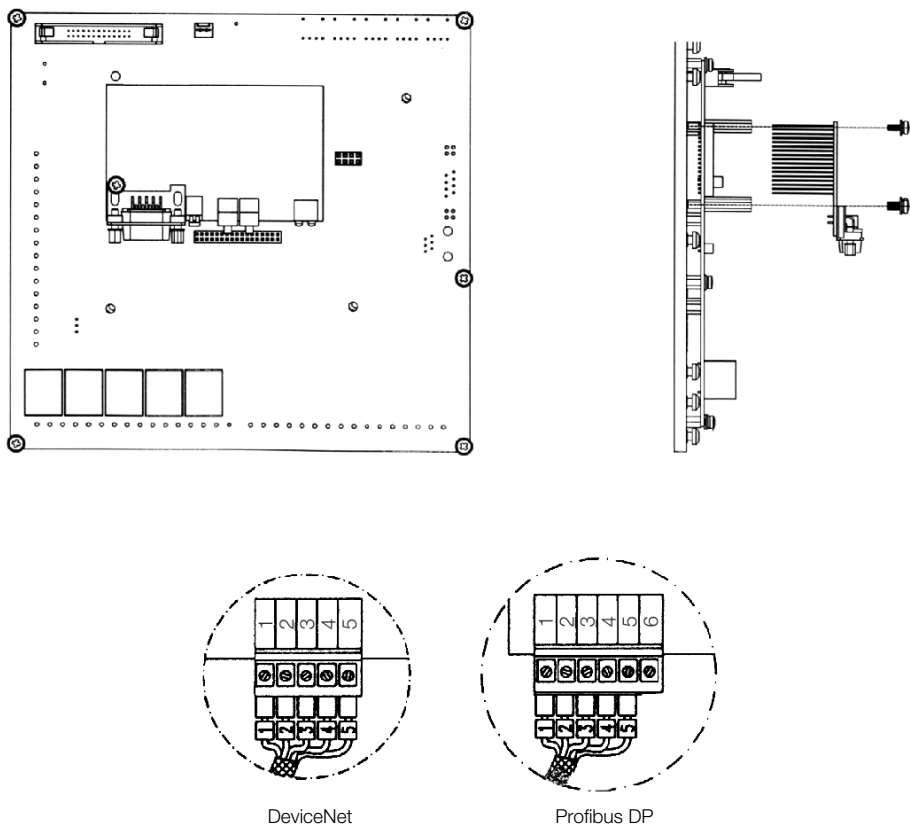

Figure 9.1: Installing the Fieldbus electronic board
3. Carefully insert the pin bar connector of the Fieldbus electronic board into the XC140 female connector of the MVC4 control board. Check the exact match of all the pins of the XC140 connector according to Figure 9.1 on page 9-3 ;